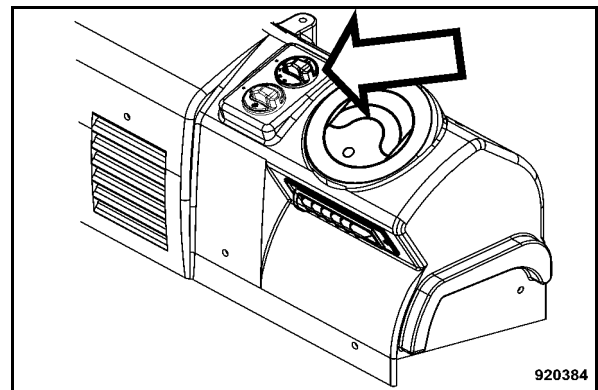

Fig. 145
- Turn the rotary switch for the cab ventilator (Fig. 145) to position "1".